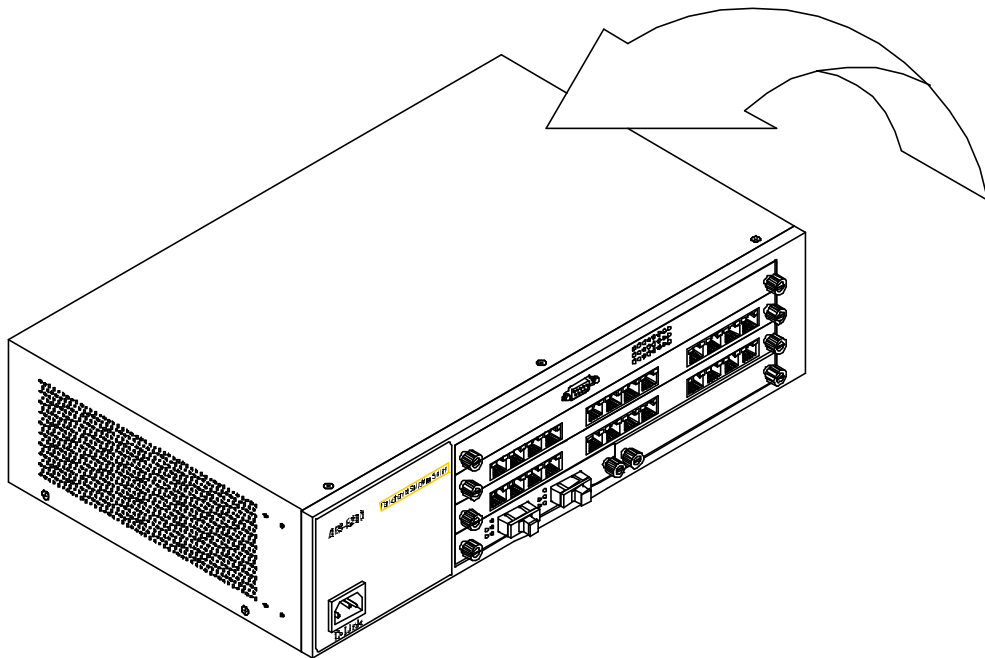

Figure 5: Install Feet on Bottom
1. Place the four rubber feet at the corners of the DES-5200. See Figure 5.